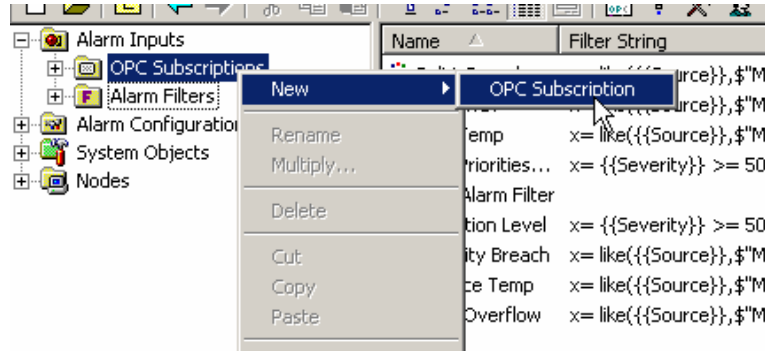

Figure A.42. Inserting a New Alarm Subscription
2. Right-click the **OPC Subscriptions** folder and select **New - OPC Subscription** from the pop-up menu, as shown in **Figure A.42** (or, select from the **Edit** menu). A new subscription is inserted into the list.